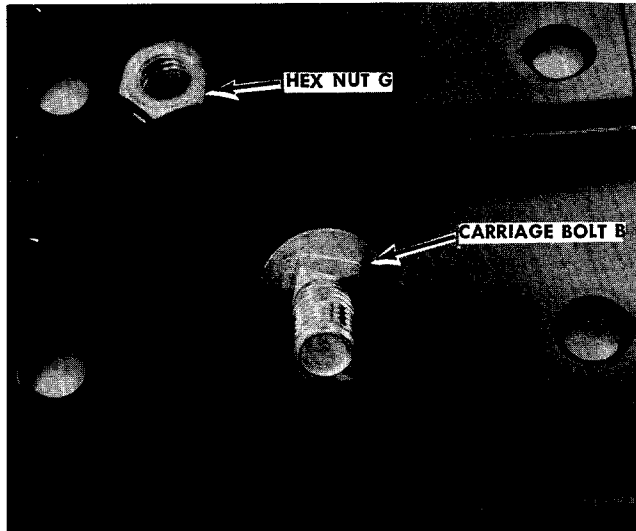

FIGURE 3. ATTACHING SEAT BOLT
Step 5. Hook the large carriage bolt B into the bottom of the seat as shown in figure 3.